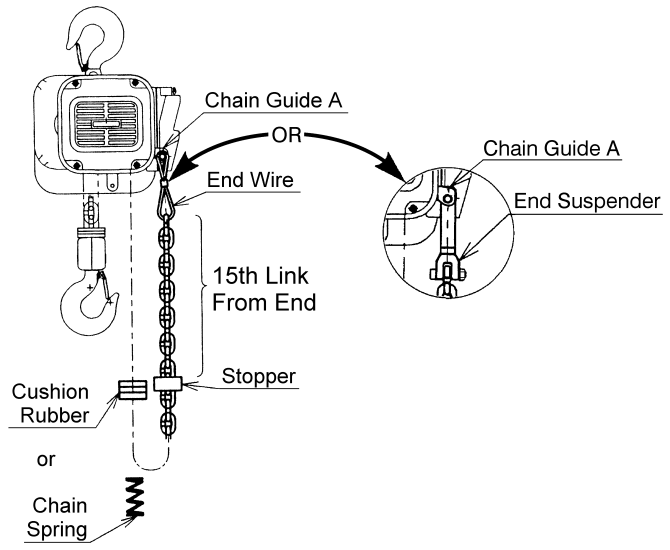

Figure 5 – Attachment of Chain to Hoist Body – No Chain Container
- 13) Feed the end link on the no-load side of the Load Chain through the Cushion Rubber or Chain Spring. For hoists using an End Wire or End Suspender install the Stopper on the 15th link from the free end then attach the Load Chain to the Hoist body – Refer to Figure 5. For hoists using an optional Chain Container install the Stopper on the 3rd link from the free end.
- 14) Feed the end link on the no-load side of the Load Chain through the Cushion Rubber or Chain Spring. For hoists using an End Wire or End Suspender install the Stopper on the 15th link from the free end then attach the Load Chain to the Hoist body – Refer to Figure 5. For hoists using an optional Chain Container install the Stopper on the 3rd link from the free end.